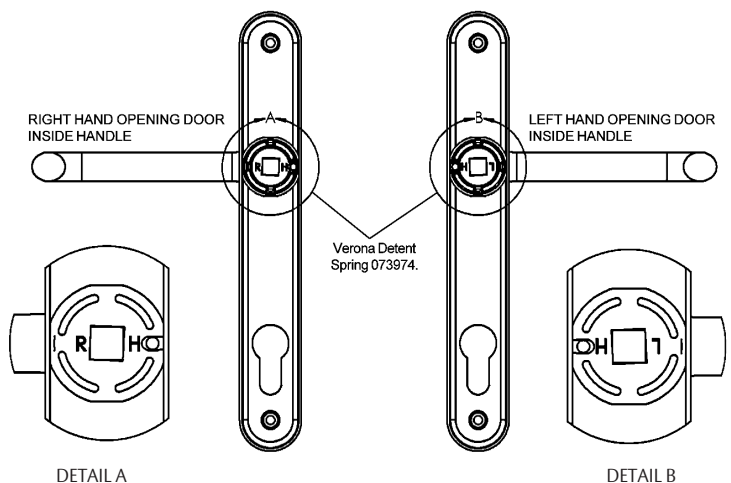

Figure 4. Verona plastic detent spring orientation diagram
7. For Verona Furniture Only: Depending on handing, select the appropriate plastic detent spring from the kit (073974) and install into the internal Verona handle, as shown in figure 4.